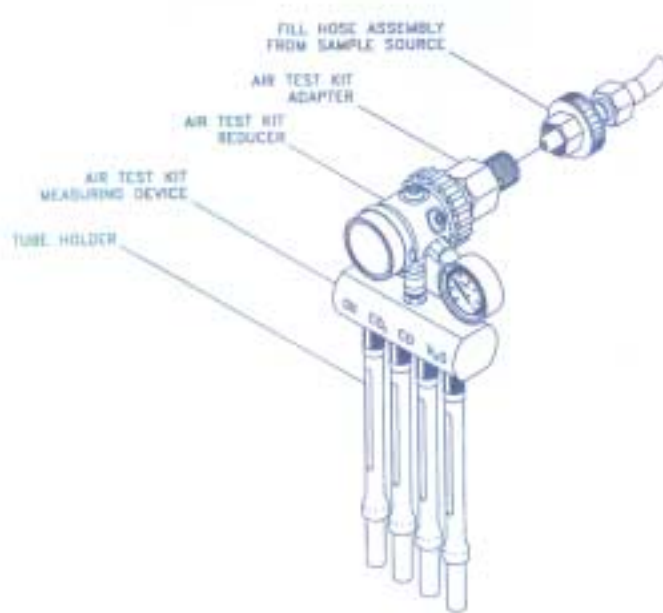

Figure 1, Air Test Kit Configuration
- c. Attach the air test kit adapter, reducer and measuring device to Fill Hose Assembly as shown in Figure 1. Use a wrench to connect air test kit reducer to air test kit measuring device. All other connections should be hand tightened only.